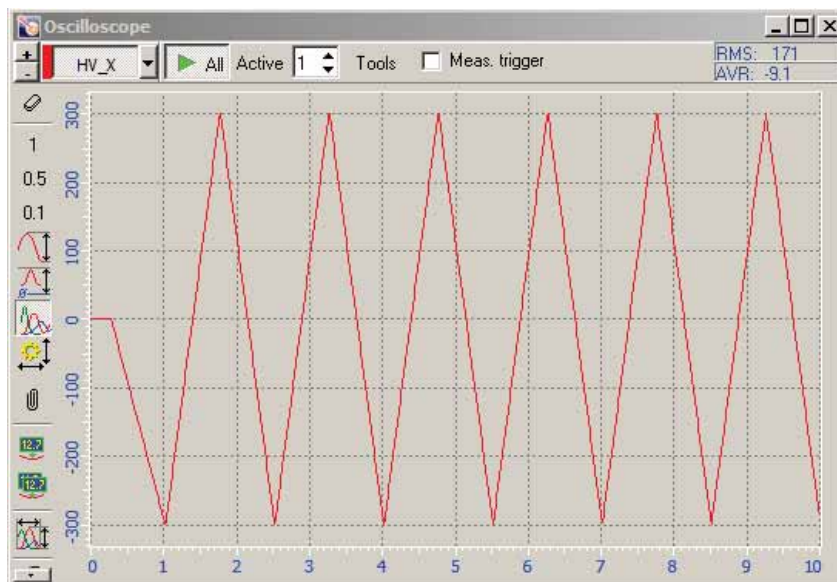

Fig. 1-9
- Click **Saw-tooth**  button. At this triangular waveform voltage with the peak-to-peak amplitude of ± 300 V is applied to the X-section of the scanner (Fig. 1-9). The scanner displacement resulting from the application of this voltage will be registered by the sensors.